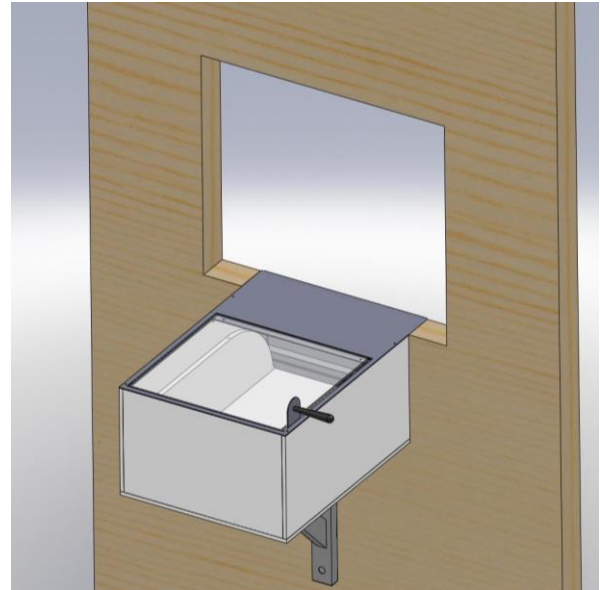

Figure 8. Install support bracket below if provided
- B. If provided, fasten the support bracket to the wall underneath the drawer so that the weight of the drawer assembly rests on top of the support bracket (**Figure 8**). Do not fasten the drawer assembly to the support bracket.